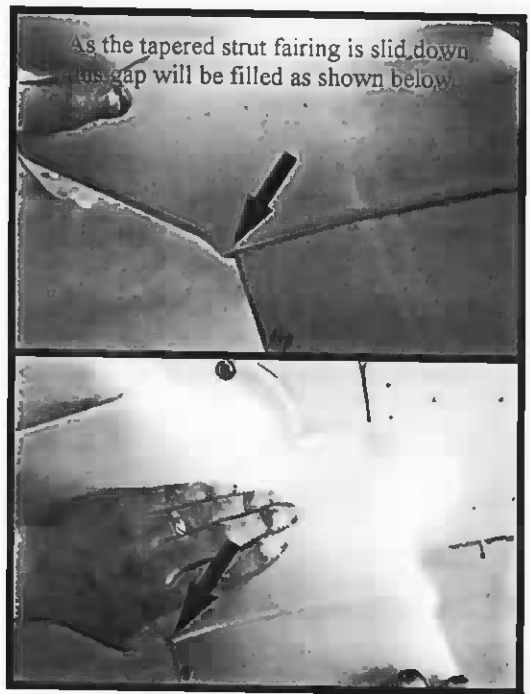

Figure 1-7
15. With the cuff held in position against the fuselage, slide the strut fairing down the strut until it just fills the opening in the cuff as shown in Figure 1-7. The cuff should now be in the proper position for drilling the attachment holes.